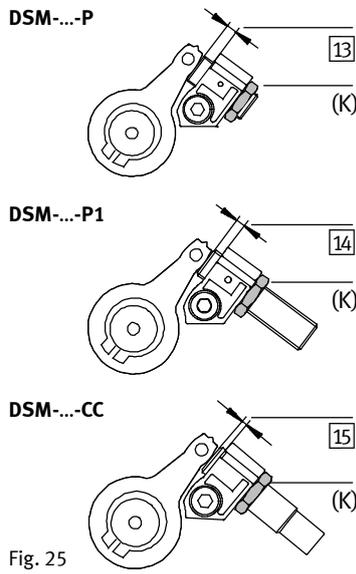

Fig. 25
- Unscrew the locking nut (K) (Fig. 25) of the shock absorber.